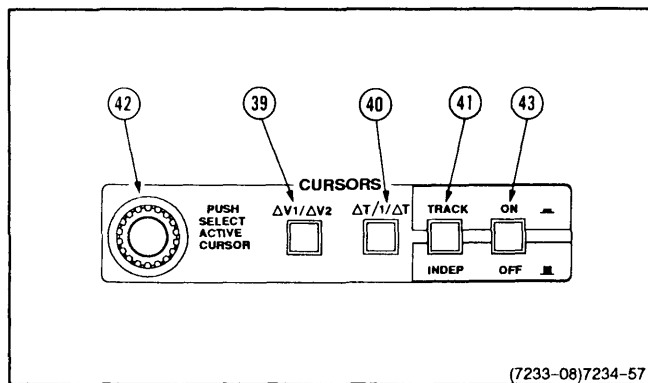

Figure 2-8. Cursor controls.
See Figure 2-8 for the location of items 39 through 43.